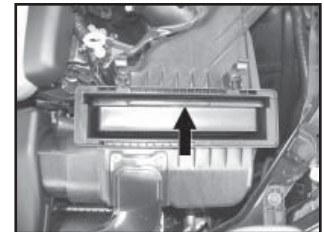

Fig. 4
5. Remove the OE filter by using the tab and sliding the filter out. Dispose of the OE filter. (Fig 4)